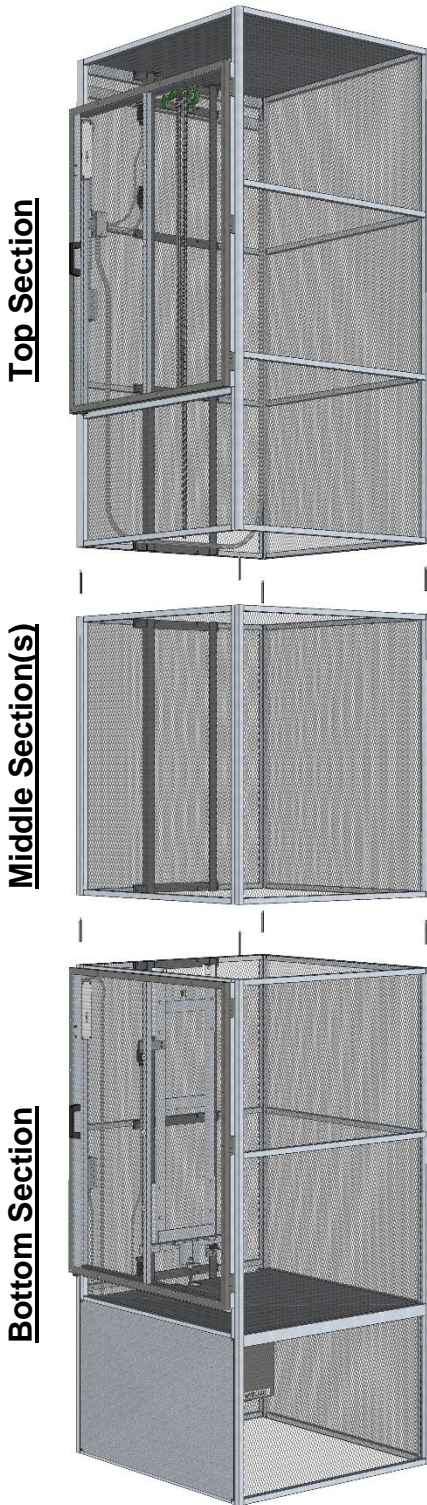

Figure 2
- 3** Stack each section in order, as labeled on track side, on top of the previous section. **Make sure the track is lined up and the stacking pins are going into the outside corner tubes.** (see Figures 2 & 3)